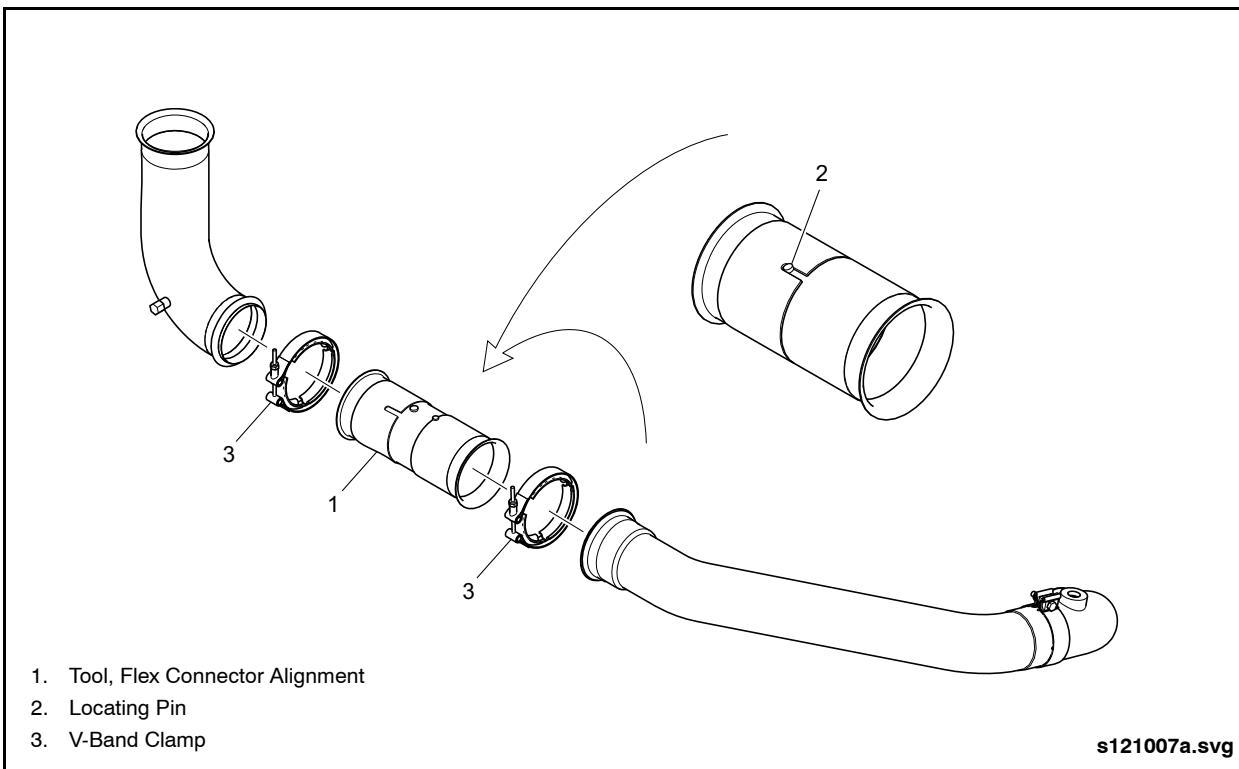

Fig. 4-26: Flex Connector Alignment Tool
5. Rotate both ends of the alignment tool until it locks into the expanded position (locating pin should be out of the slot and in contact with edge of the slotted end of the tool). Make sure that the flanged end of the exhaust tubes are properly seated to the tool. See "Fig. 4-26: Flex Connector Alignment Tool" on page 46.